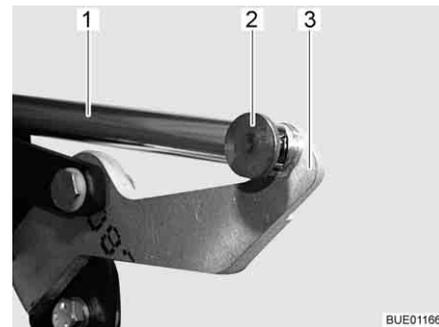

Fig. 117 Drive
- Detach the pin and cotter pin (Fig. 117,2) between the push rod (Fig. 117,1) and lever (Fig. 117,3).